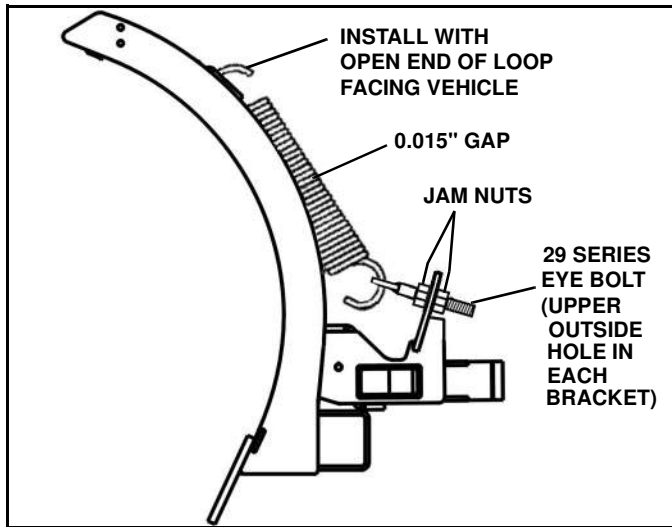
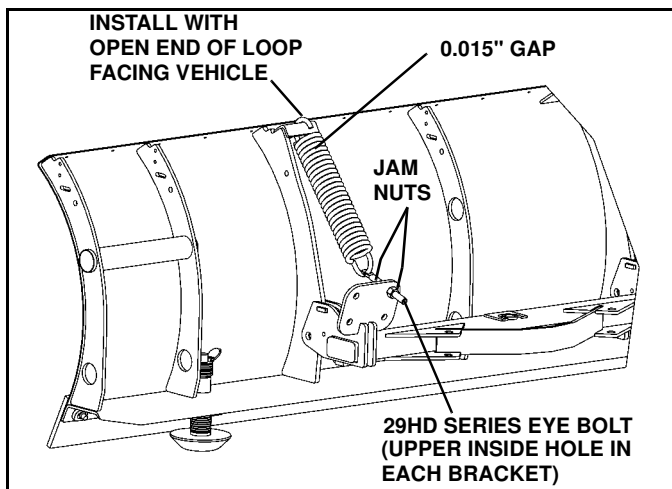

Figure 2-4(29 Series)
Figure 2-5(29 HD and 29R Series)
7. Hook springs onto blade with open end of loop facing up. (See Figure 2-4, and Figure 2-5)
8. **29 SERIES BLADES:** Hook other end of spring onto eyebolt. Insert one eyebolt on each side of the blade into the single upper hole on the swing frame spring bracket. Use a jam nut on either side of bracket to secure. (See Figure 2-4 and Figure 2-5)